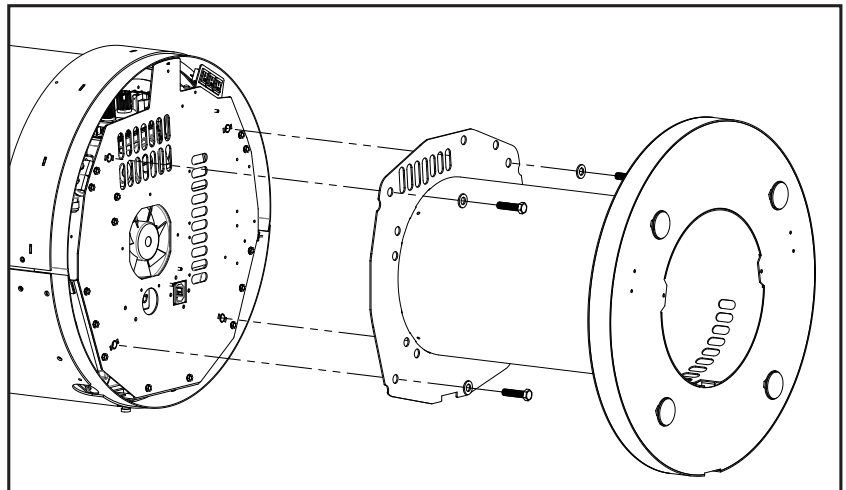

Figure 74: Pole Pedestal Installation
The pole pedestal comes packaged with four (4) hex head bolts and four (4) washers used to secure the pedestal onto the unit. Align the pedestal vent slots with those on the bottom of the unit. Fasten the pole pedestal to the unit using the same threaded holes that the leveling legs were installed in (see Figure 74).